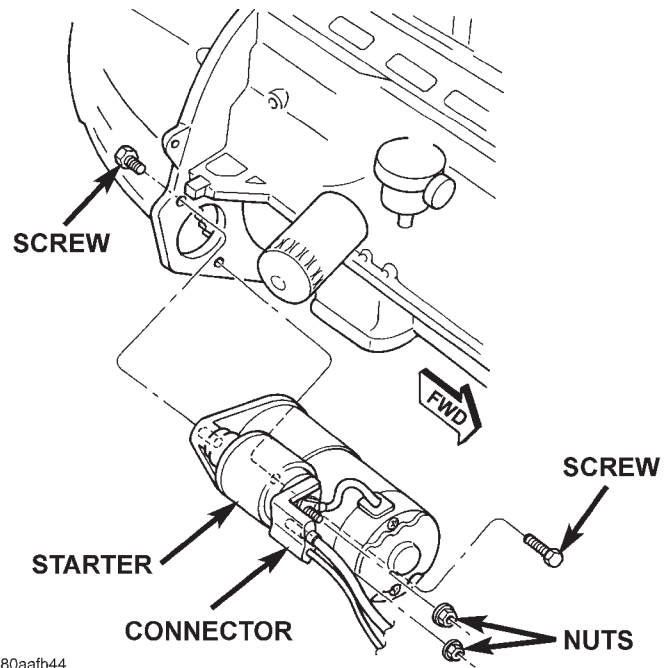

Fig. 12 Starter Remove/Install - 4.0L Engine
- (1) Disconnect and isolate the battery negative cable.
- (2) Raise and support the vehicle.
- (3) Disconnect the battery cable and solenoid feed wire from the starter solenoid (Fig. 12).